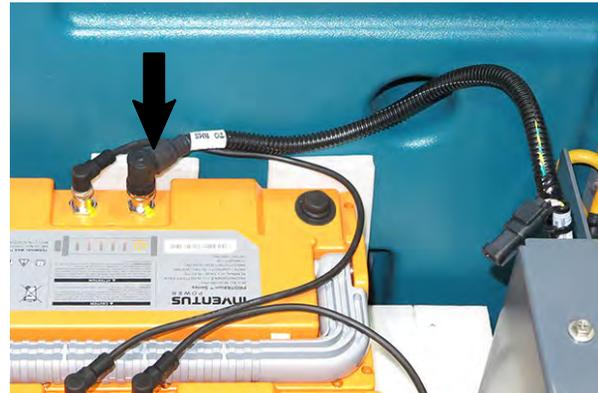

FIG. 20
1. Disconnect the UI to BMS electrical harness from the communication terminal on lithium battery. (Fig. 20)